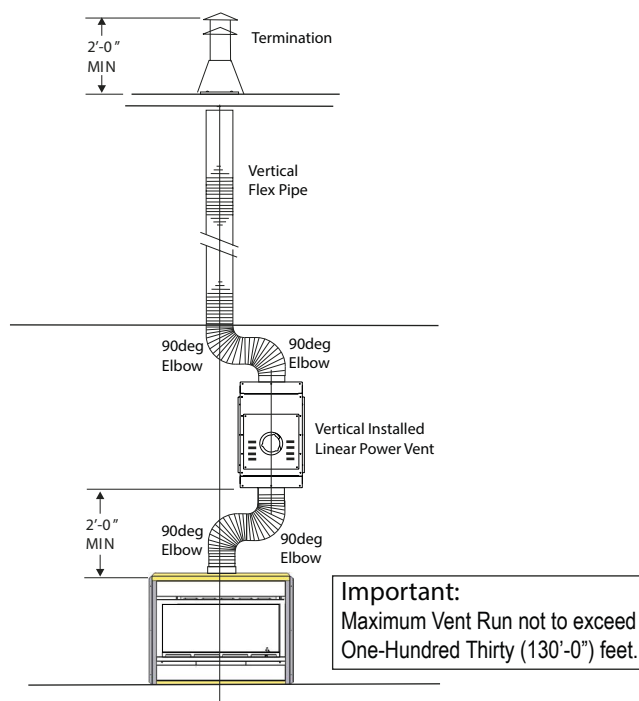

Figure 4a. Vertical Vent for the Linear Power Venter
1. The linear power vent can be installed to existing stud construction or directly to cement wall or roof. The LDVPV must maintain the clearance to combustibles shown in **Figure 4a**. The required service access panel must be framed at 18" X 18". To enclose the service access panel, (at less than 1") a minimum 30% free air must be supplied at all times.